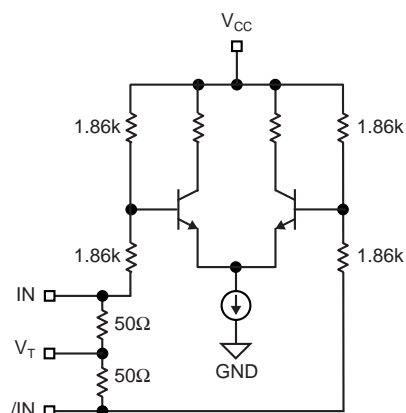

Figure 2a. Simplified Differential Input Buffer
**Note 3.** Due to the internal termination (see Figure 2a) the input current depends on the applied voltages at IN, /IN and  $V_T$  inputs. Do not apply a combination of voltages that causes the input current to exceed the maximum limit!
**Note 3.** Measured as per Figure 2a, 100 $\mu$ s across Q and /Q outputs.